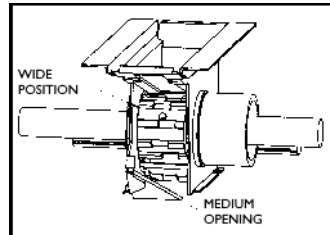

Fig. 4
- Wide position, with large alternated housings for regular and large seeds (Fig. 4 and 5).